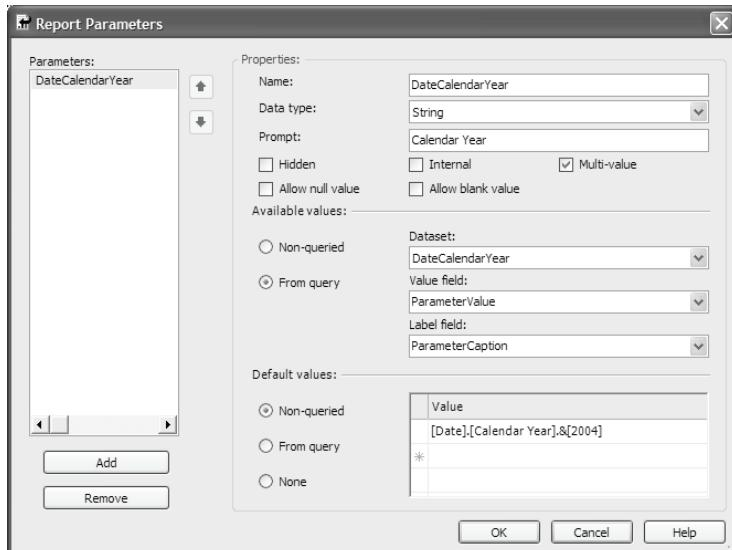

Figure 18.11 By default, the Query Builder creates a multi-value data-driven parameter when the Equal operator is used.
- With the Layout tab active, select the *Reports* \Rightarrow *Report Parameters* main menu. BI Studio opens the Report Parameters dialog (Figure 18.11)